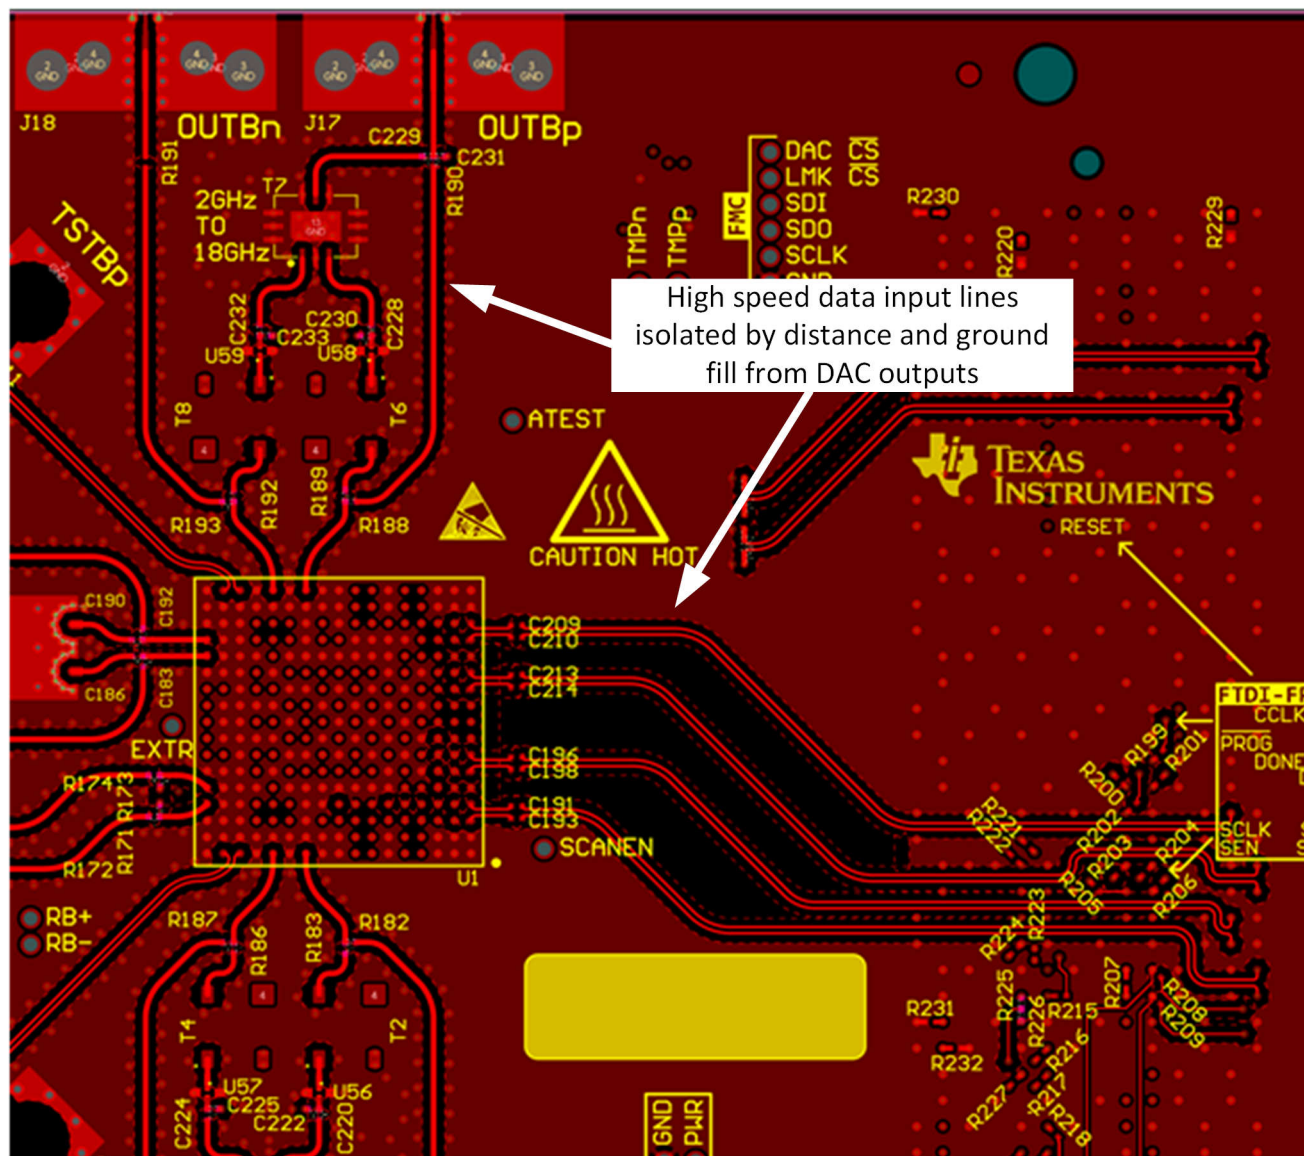
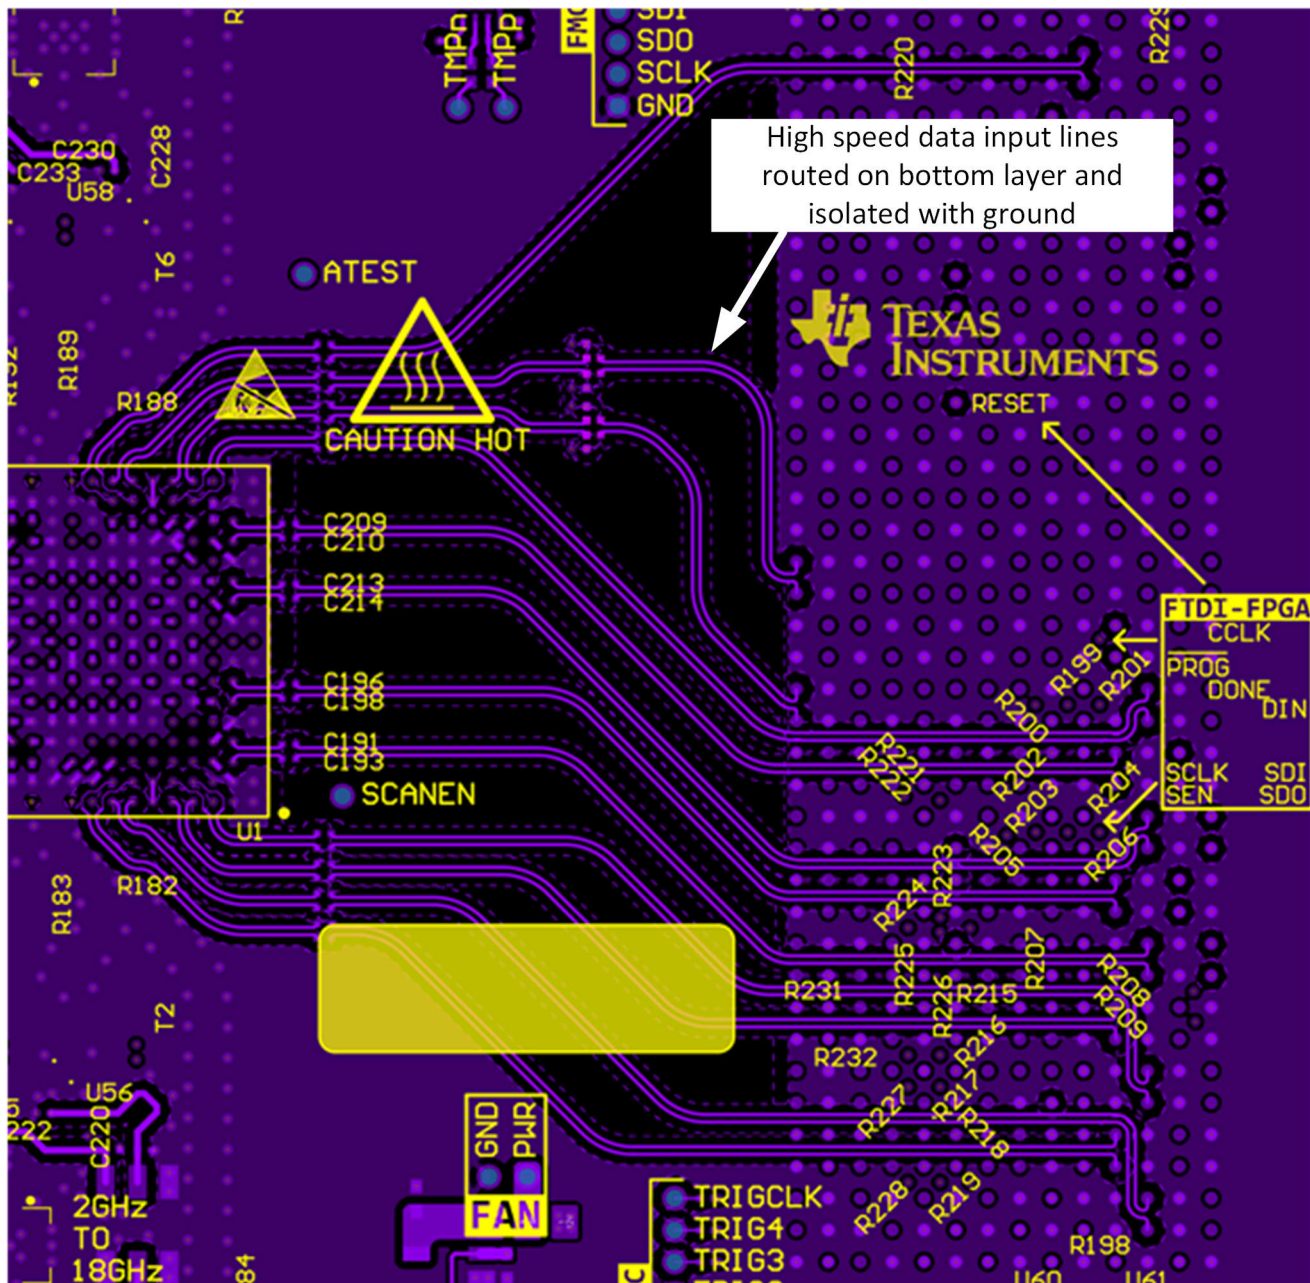

Figure 9-13. Serdes Top Layer Routing with Ground Fill Isolation
Figure 9-14. Serdes Bottom Layer Routing with Ground Isolation
9. Pay particular attention to potential coupling between JESD204x data input routing and the analog output routing. Switching noise from the JESD204x inputs can couple into the analog output traces and show up as wideband noise due to the high bandwidth of the DAC. Route the Serdes JESD204x data inputs on a separate layer, if possible, from the DAC output traces to avoid noise coupling, see Figure 9-13 and Figure 9-14 as examples.